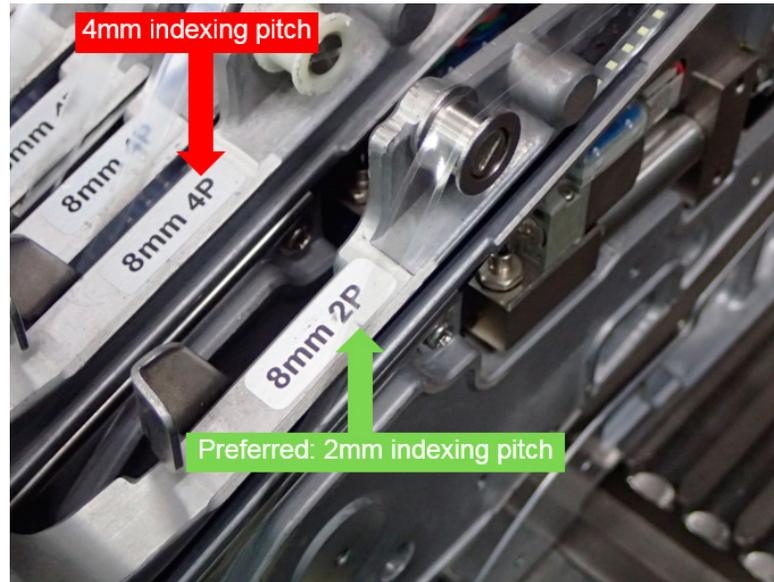

Figure 11. An example of Samsung SM421 feeder with 2mm (preferred) and 4mm indexing pitches.
- c. Evaluate indexing with smaller pitch (for e.g. 2mm versus 4mm pitch) in pneumatic based feeder to minimize poor pick-up process, as shown in Figure 11.